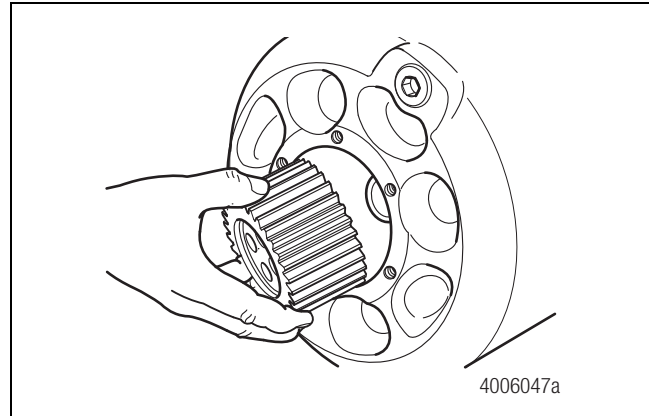

Figure 3.20
6. Use a suitable tool to secure and remove the sun gear from the hub housing. Figure 3.20.